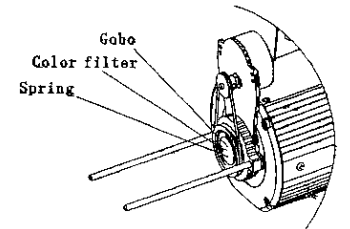

Figure 4
2. Remove the two screws and put the gobo & color filter in the socket as shown in Figure 4.